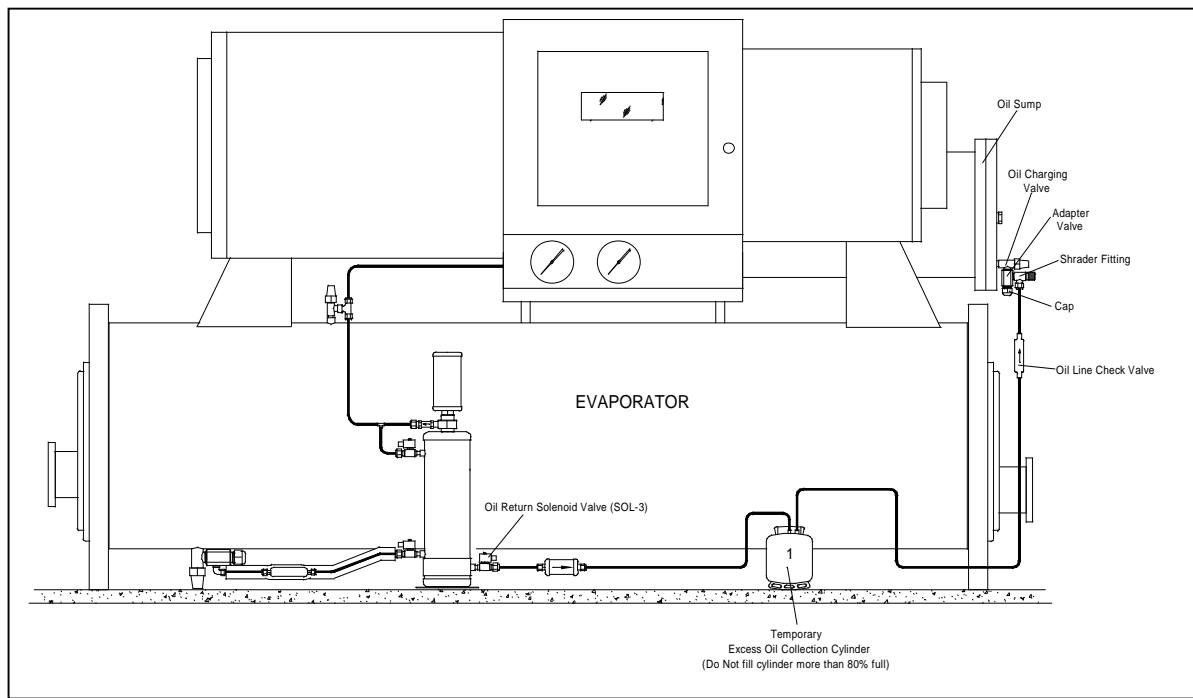

Figure 2. – CORRECT Optional Oil Collection Cylinder Hook-up
Option 2: Plumb the “Oil Return Line” as per “Option (2)” Piping Instructions (see page 19). As determined by previous calculation, install sufficient containment capacity, **such as a single 50, 100, 200, etc., pound refrigerant recovery cylinder**, in the “Oil Return” line between the OAM Purger and the Chiller’s oil sump. The cylinder will retain and hold the excess oil as it is stripped from the refrigerant, preventing it from accumulating in the oil sump. **NOTE** that the rated capacity of a refrigerant recovery cylinder is for refrigerant which is heavier than oil, therefore a refrigerant recovery cylinder will not hold the same weight of Oil as the rated refrigerant capacity. (See Figures 2 & 3 on page 22 which includes approximate oil holding capacities of various size refrigerant recovery cylinders.) Once the stripping process is complete the cylinder and excess oil must be removed from the system.
CAUTION: DO NOT connect multiple cylinders in series. The excess oil collection hook-up MUST be limited to a single cylinder: i.e., a single 50, 100, or 200 lb., etc. cylinder, and MUST not be filled to more than 80% of its rated capacity. NOTE that the rated capacity of a refrigerant recovery cylinder is for refrigerant which is heavier than oil, therefore a refrigerant recovery cylinder will not hold the same weight of Oil as the rated refrigerant capacity. (See Figures 2 & 3 on page 22 which indicates the approximate oil holding capacities of various size refrigerant recovery cylinders.)
2. Plumb the selected excess oil containment vessel in the Oil-Return line **precisely** as illustrated in **Figure 2 on page 22**. Remember to install the check valve (provided in the OAM Purger Installation Kit) in the oil return line between the containment vessel and the oil sump, **as shown in figure 2, on page 22**. The **check valve MUST** be installed it prevents back flow of oil from the oil sump into the oil containment vessel.
CAUTION: Option (2) is intended only as a convenient method of dealing with excess oil. You MUST still occasionally monitor the oil sump for excessive oil accumulation since there may be more excess oil than anticipated. Refer to approximate oil holding capacities of the refrigerant recovery cylinders under Figure 2 on page 22.